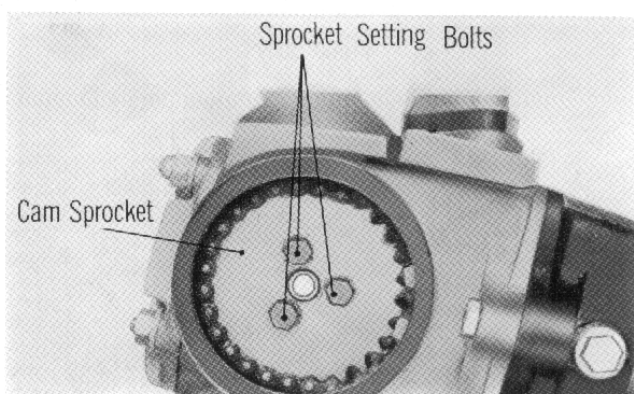

Fig. 14
5. Loosen the three cam sprocket mounting bolts and remove the cam sprocket from the camshaft (**Fig. 14**).